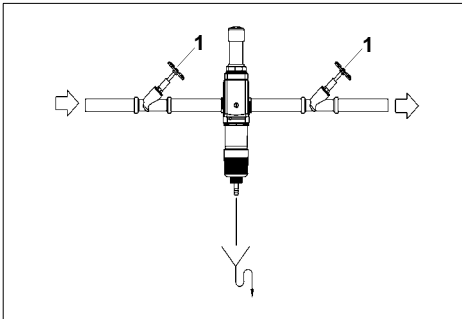

Fig. 7: Cartridge exchange I
1. Close the shut-off valves (1) upstream and downstream of the device (see Fig. 7).